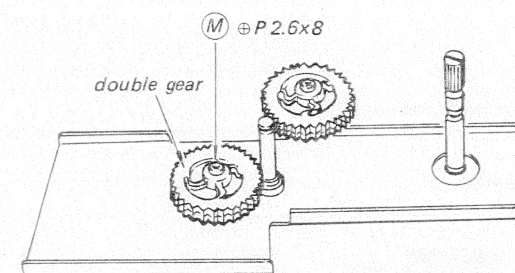

Fig. 2-18.
4. Remove the screw marked ⑥ in Fig. 2-18 and take off the double-gear.